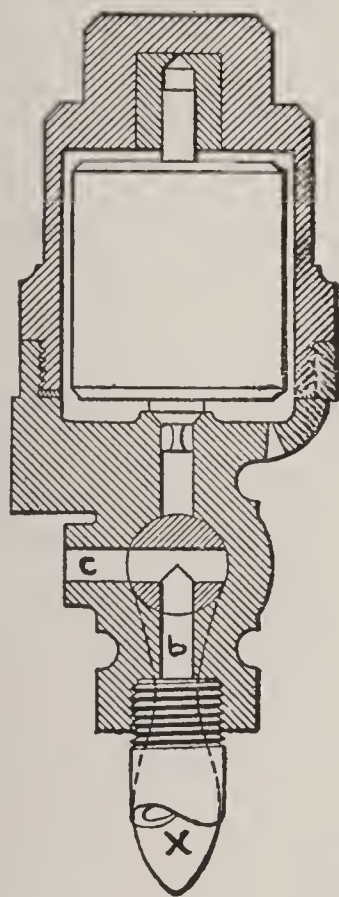

Fig. 18.
The standard type of pressure retaining valve used on six, eight and ten-inch cylinders is shown in Figs. 18 and 19. It consists of weighted valve 4, enclosed in cas-
**Operation.** When the handle of the pressure retaining valve is turned downward, pointing perpendicularly (Fig. 18) the pressure escapes from the brake cyl-